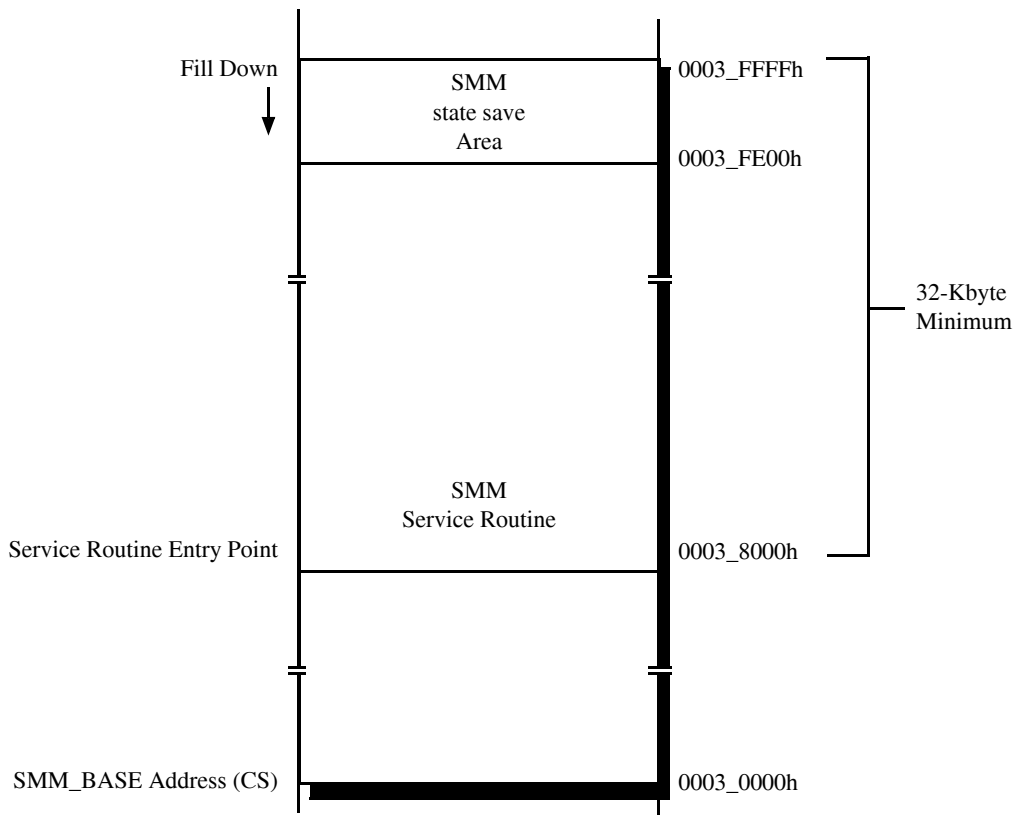

Figure 4. Default SMM Memory Map
Figure 4 shows the default map of the SMM memory area. It consists of a 64-Kbyte area, between 0003_0000h and 0003_FFFFh. The top 32 Kbytes (0003_8000–0003_FFFFh) must be populated with RAM. The default code-segment (CS) base address for the area (called the SMM_BASE address) is 0003_0000h. The top 512 bytes (0003_FE00–0003_FFFFh) are the SMM state save area. The default entry point for the SMM service routine is 0003_8000h.